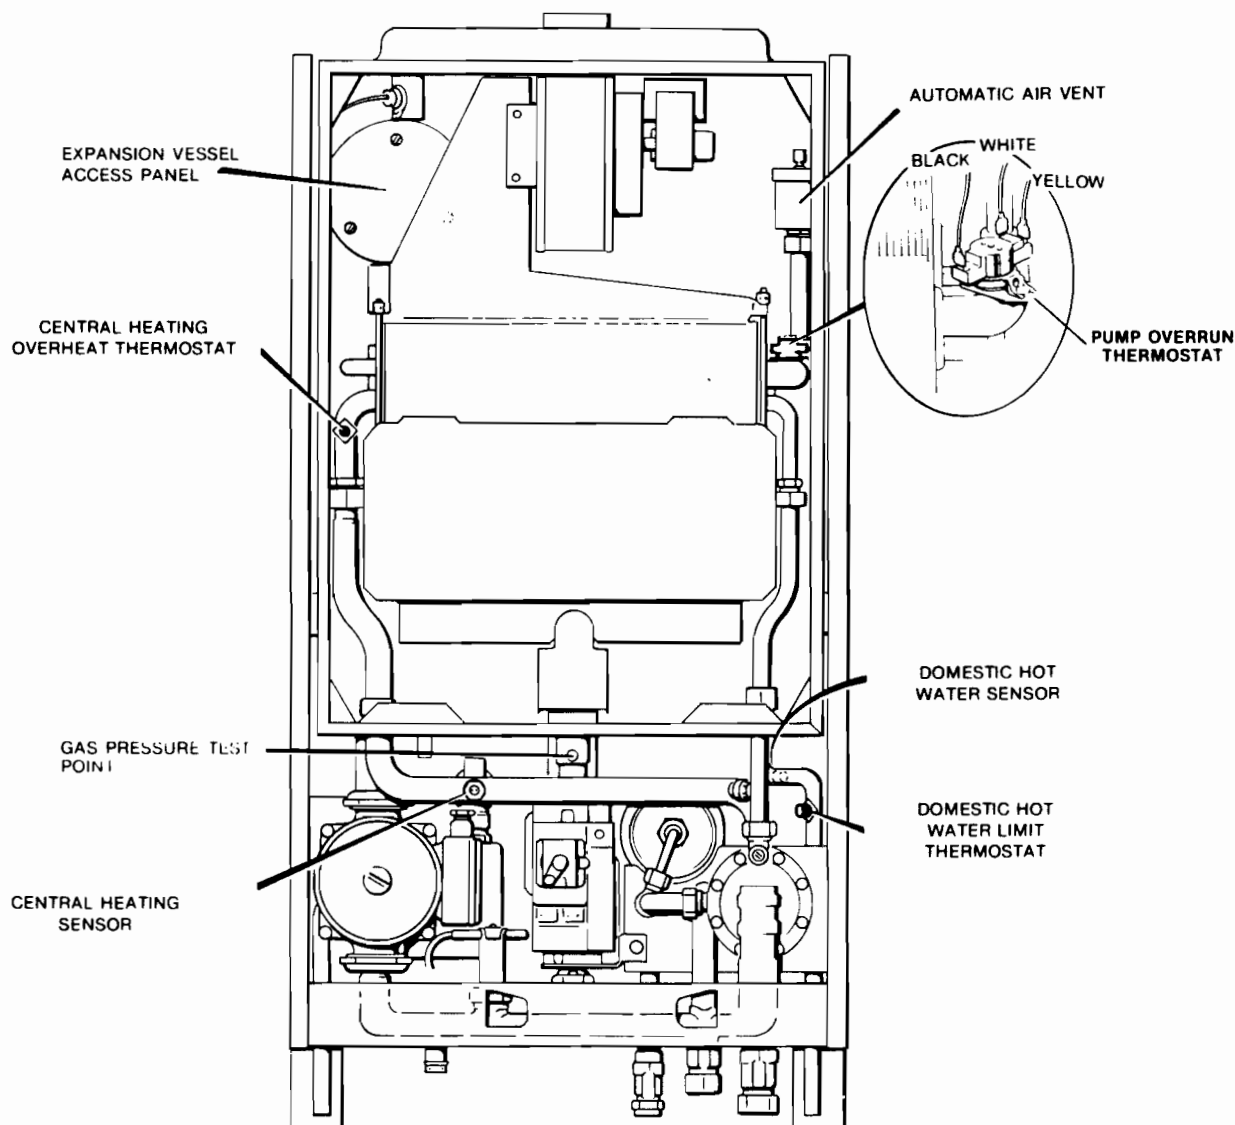

FIG. 30
(3) INITIAL LIGHTING (Refer Fig.30)
- o) Lower the control panel (one screw) and remove the screw in the gas pressure test nipple, (see Fig. 30) and fit a pressure gauge via a flexible tubing to the burner gas pipe.